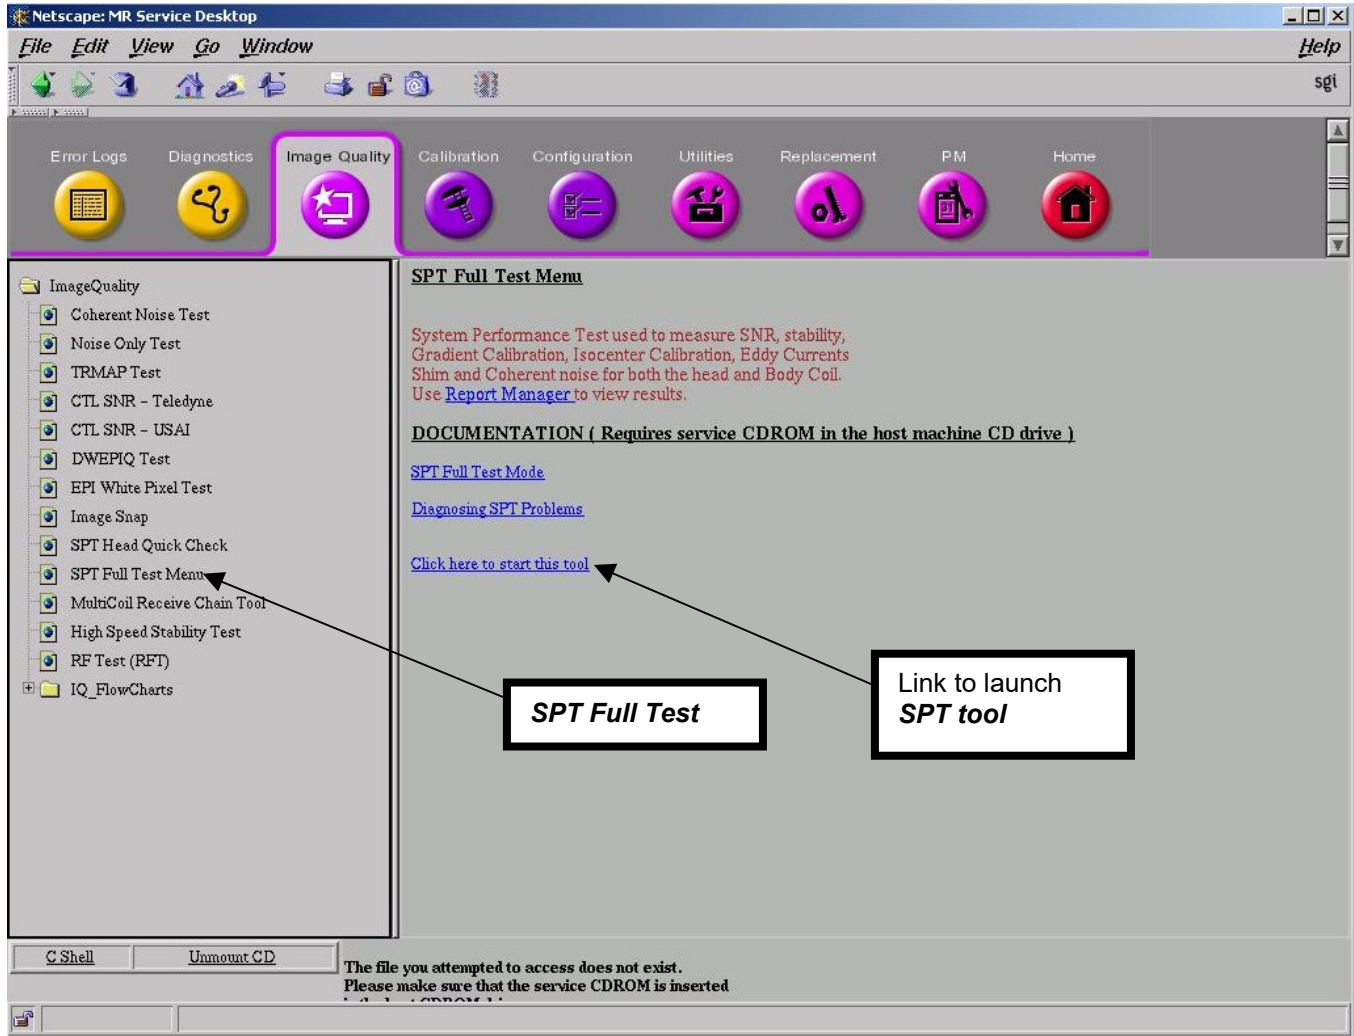

Figure 2
4. Click on the “SPT Full Test Menu” found in the Image Quality folder in the left column of the screen. See Figure 2.
5. Click on this link: “Click here to start this tool” (shown in Figure 2) to launch the SPT tool.